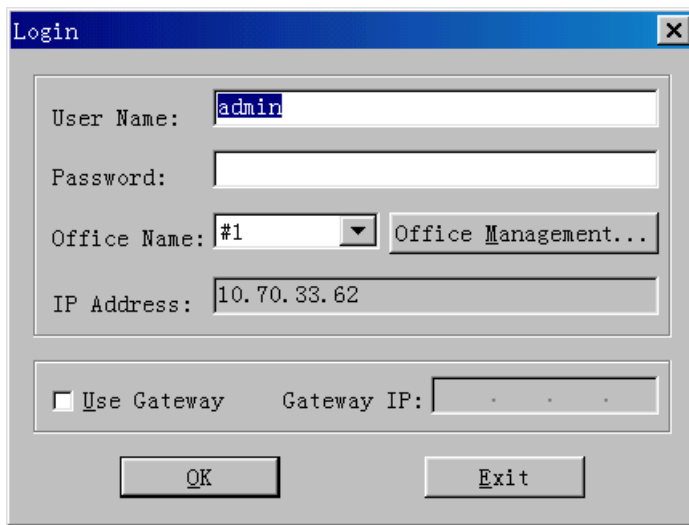

Figure 3-4 [Login] dialog box
icon on the toolbar. If the user has logged in, the system prompts whether to log out the current user. Click <OK>, and the [Login] dialog box is displayed. If the user has not logged in, the [Login] dialog box is displayed directly, as shown in Figure 3-4.
- 2) To unlock the system, enter the correct password, and click <OK>. If you click <Relogin>, the system will clear the navigation tree, close all the windows, and display the [Login] dialog box as shown in Figure 3-4.